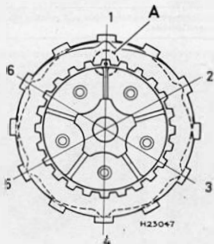

Fig. 1.11 Correct arrangement of clutch plain plate notches - DT model (Sec 41) Note also punch mark stamped on clutch centre - A
- The clutch plain and friction plates should be coated with transmission oil prior to installation, it will be noted that each of the plain plates has a part of its outer edge machined off. This effectively makes the plate become slightly out of balance, causing each plate to be thrown outwards under the centrifugal force and thus reducing clutch noise. To prevent the whole clutch from getting out of balance it is necessary to arrange the plates so that the machined areas are spaced evenly around its circumference. This can be achieved by arranging each cutaway area to be approximately 90° (DT models) and 72° (TZR models) away from the previous one. (See Fig. 1.11.) Starting with a friction plate, and then a plain plate. Insert the plates in succession until all are fitted. Note on DT models that the friction plate with the larger internal diameter, should be the second friction plate to be installed into the clutch outer drum, along with the clutch damper ring.